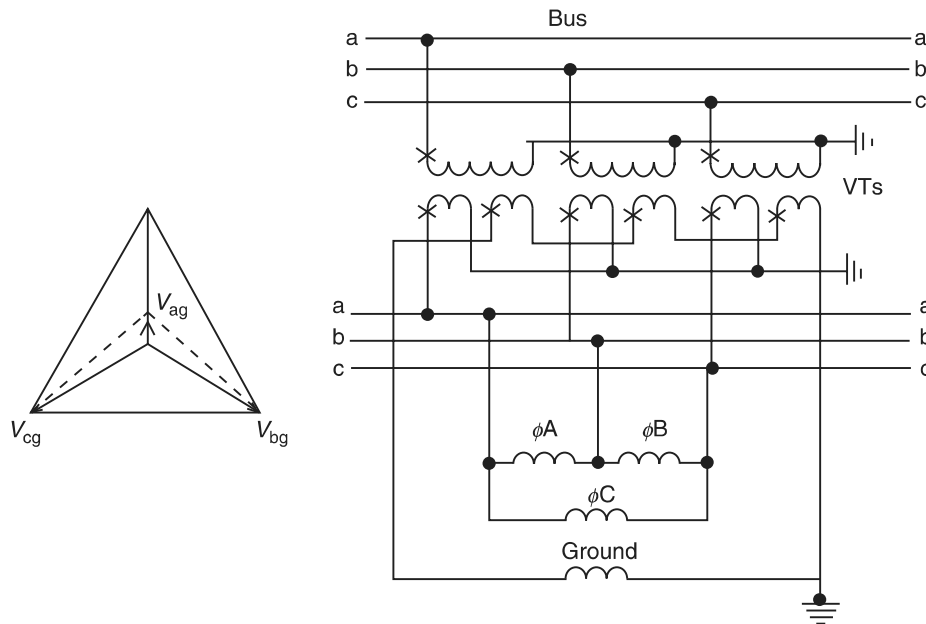

FIGURE P5.5
- 5.5** Phase and ground relays are connected to a set of voltage transformers (VTs) as shown in Figure P5.5. The secondary winding voltages are 69.5 for the phase relays and 120 V for the ground relays. The